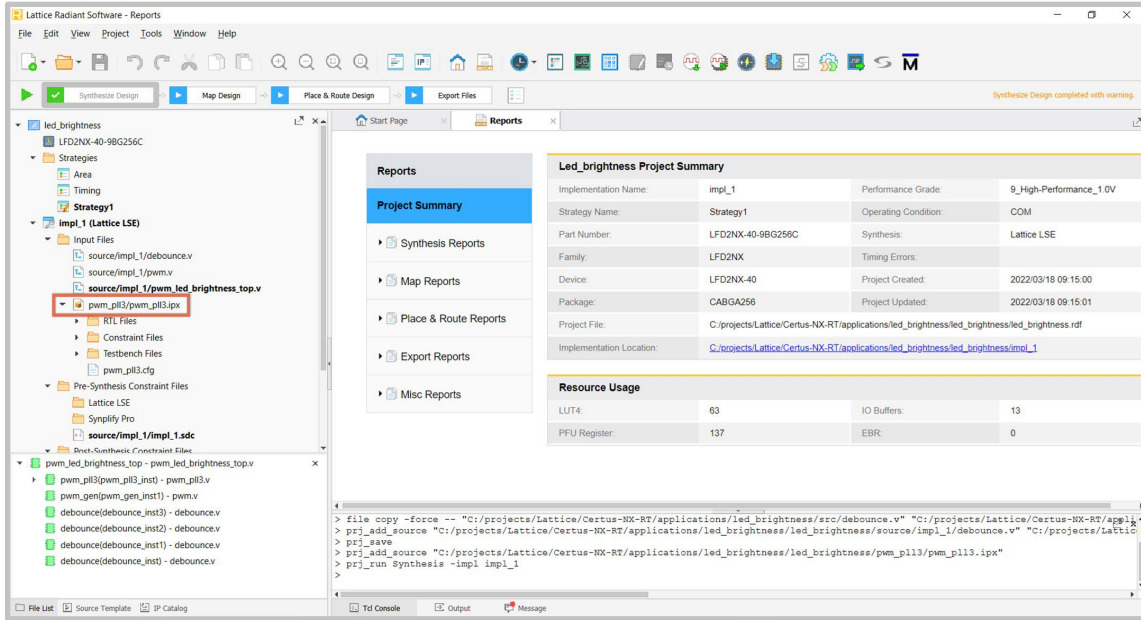

Figure 10: Looking at the Recently Added PLL IP
- Once the PLL is created, it is added to the project files, see **Figure 10**.